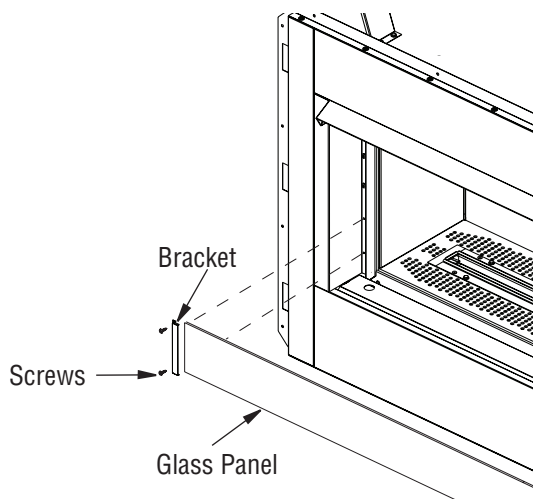

Figure 25a - Installing/Removing Glass Panel
The glass panel assembly should be installed after the fireplace is completely framed and finished. The brackets are attached to the front side face of the fireplace using two screws as shown in Figure 25a. Position the glass panel in the bracket so that it is securely in place.
3. Remove glass panel if installed (*see Figure 25a*).